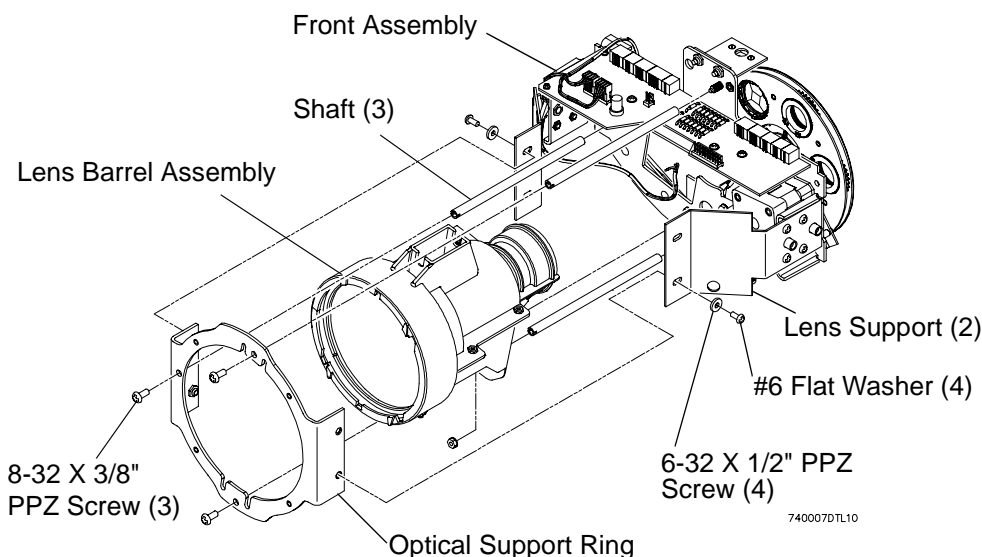

Figure 2-12: Removing Lens Barrel Assembly
- Step 5. Using #2 Phillips screwdriver, remove 8-32 X 3/8" PPZ screws from shafts (three places) securing optical support ring to shafts. **Figure 2-12.**